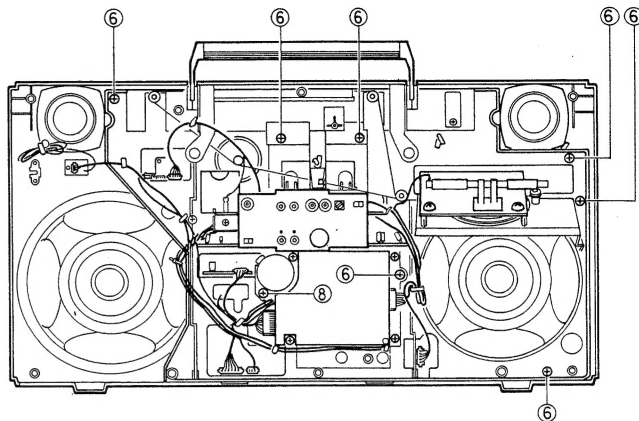

Fig. 7
D. Mechanical unit (How to remove directly from the front cabinet) (Fig. 7, 8)
1. Remove 4 screws (7) – SBSF3010V.
2. Remove a screw (8) – SBSF3030V.
3. Remove wire connectors (B), (D) ~ (F) and (I).